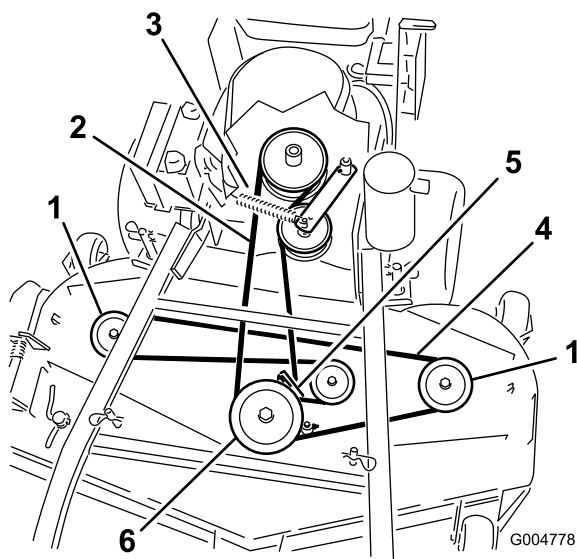
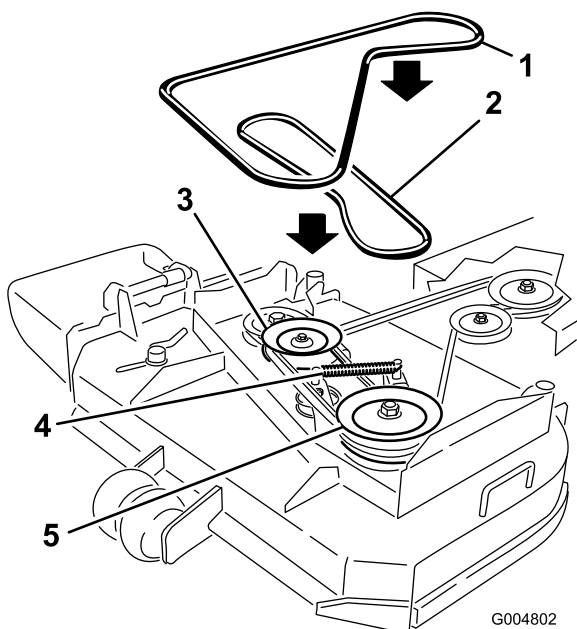

Figure 43
Figure 44
6. Disconnect the idler arm spring to relieve tension on the idler arm and idler pulley, then remove the worn mower belt (Figure 43 or Figure 44).
7. Install the new mower belt around the two outside spindle pulleys, the idler pulley, and in the lower groove of the double spindle pulley (Figure 43 or Figure 44).
8. Connect the idler arm spring (Figure 43 or Figure 44).
10. Adjust the belt guide an 1/8 inch (3 mm) from the belt (Figure 43 or Figure 44).